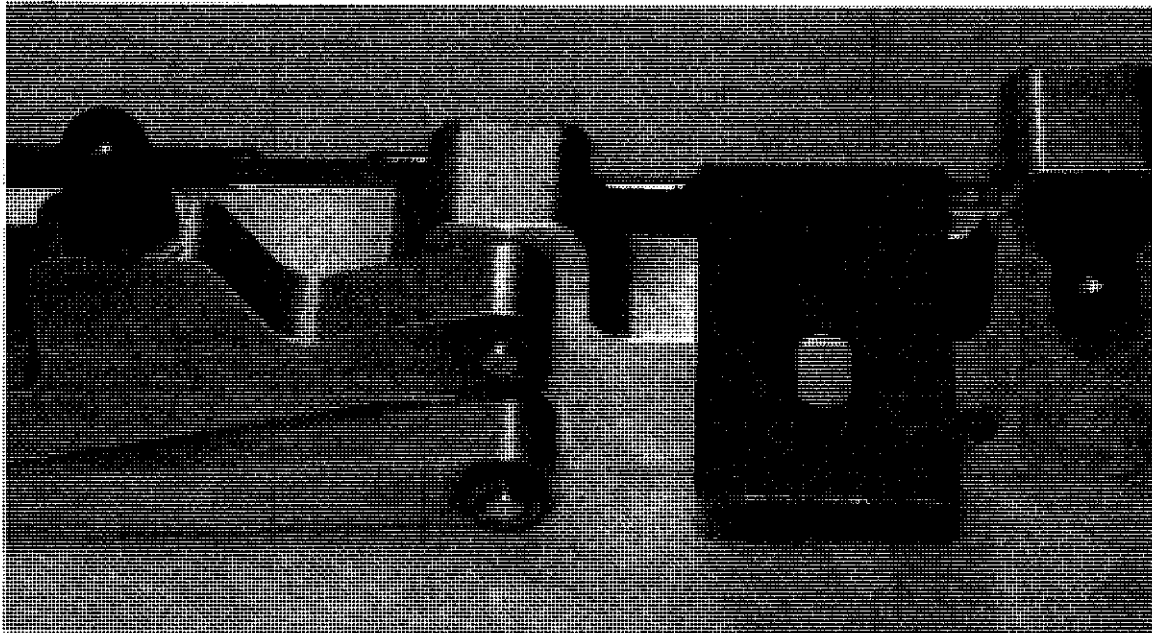

Figure 6
9. Fit the gas spring ball mounts to the new mechanism (see Figure 6), apply a small amount of proprietary grease (Retinax 'A' or similar) and push the new gas spring onto the ball mounts